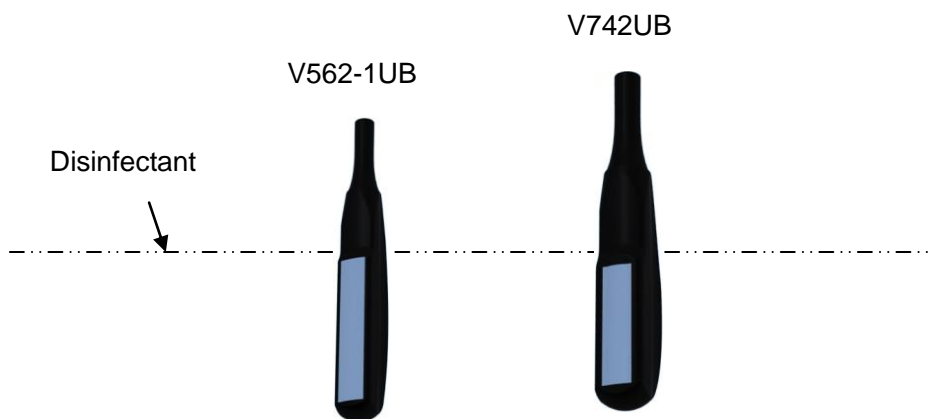

Figure 12-1 Depth of the Transducer Immersed into Disinfectant
5. Place the cleaned and dried transducer in contact with the disinfectant (refers to figure 12-1 for the contacting area) for the time specified by the disinfectant manufacturer. For example, the contact time recommended by the manufacturer for soaking in Cidex Glutaraldehyde(2.4%) is at least 45 min.
7. Patient contact area should be immersed into the solution while using the immersion method, but should not exceed the depth shown in figure 12-1.